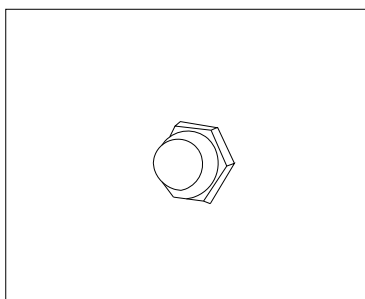
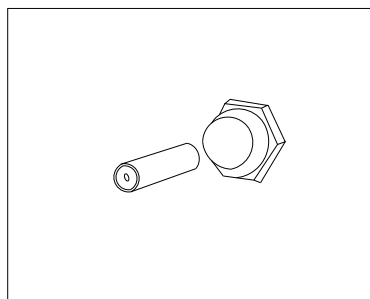
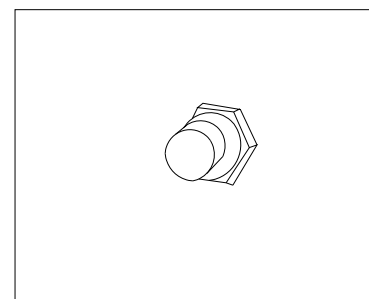
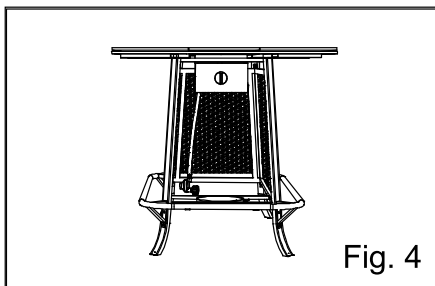

Fig. 1
Fig. 2
Fig. 3
Fig. 4
3-Unscrew the battery box as shown in Fig 1. Insert the negative electrode side of the battery into the bottom of battery box as shown in Fig 2. Then screw the battery box as shown in Fig 3.
1) Clean the valve and ensure the tank holder is situated in an appropriate location (Fig. 1).
2) Loosen the tank holder retainer bolt by turning counter-clockwise (Fig. 2). Place the propane tank on the tank holder (Fig. 3) and tighten the retainer bolt securing the tank to the tank holder (Fig. 4).